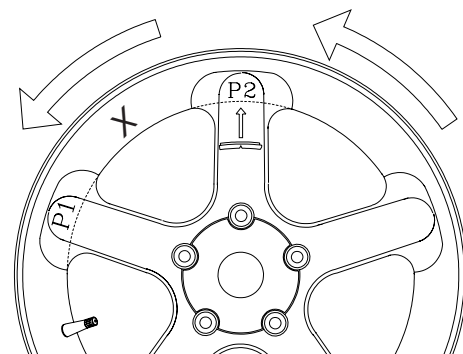

Figure 35
8. The display will read **"SPO 2"**. Locate the second closest spoke to top dead center and rotate the wheel to the top dead center position, press **F** Button again to store the position. See Figure 35.